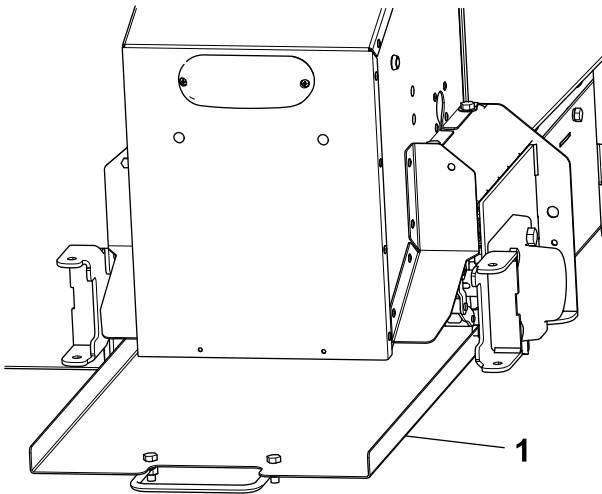

Figure 22
3. Lift up on the cleanout tray handle to clear the mount holes and slide the tray out (Figure 22).